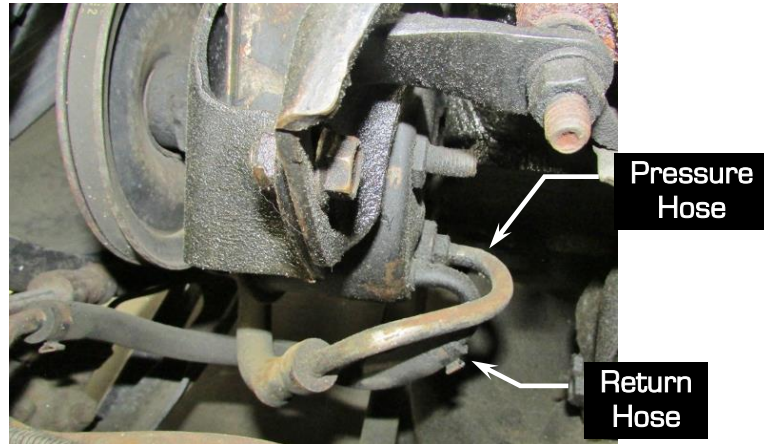

Figure 6 - Remove Pressure & Return Hoses from Pump
7. Remove the pressure hose from the back of the power steering pump. Loosen the hose clamp from the back of the power steering pump and pull the return hose off the pump (Figure 6).